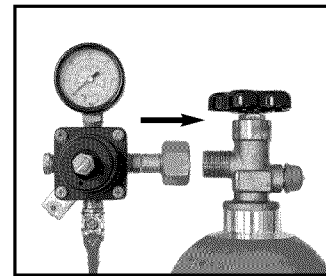

Fig. 10
5. Fasten the CO₂ regulator to the CO₂ cylinder, tightening the CO₂ nut securely. Do not over tighten; overtightening may damage the washer in the stem of the regulator (Fig. 10). Ensure valve is off.